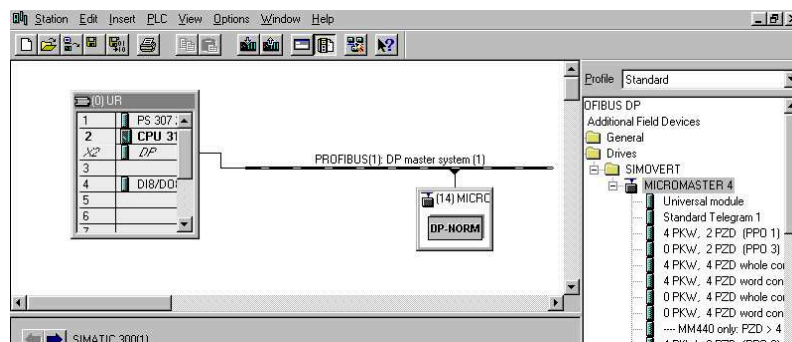

Figure 6-13 Dragging and Dropping the MICROMASTER 4 Profile
21. Select MICROMASTER 4 and drag and drop it onto the PROFIBUS in the Hardware Diagram (see Figure 6-13 below).